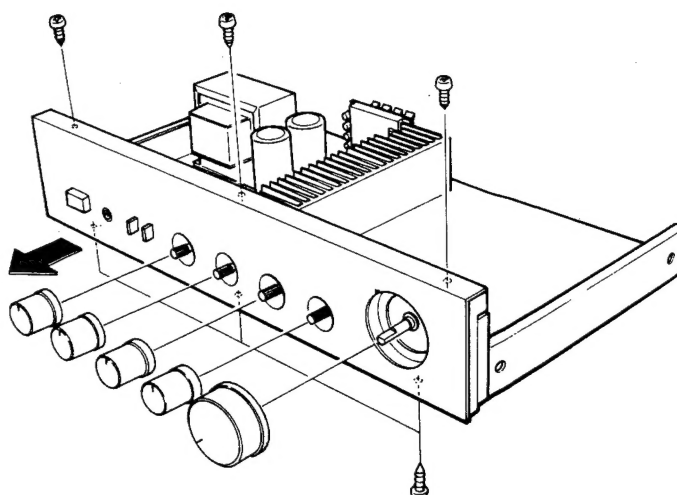

Fig. 7
3. How to remove the front panel (Fig. 7)